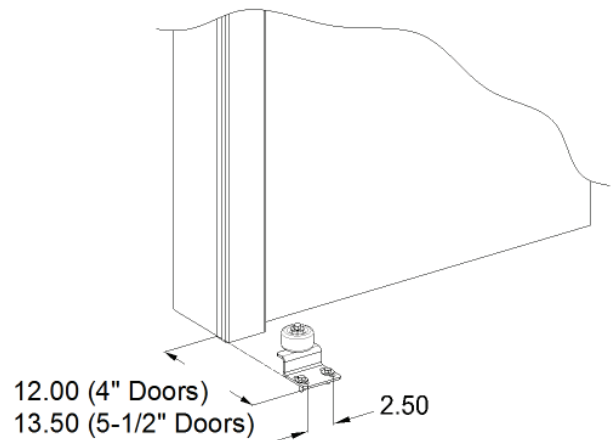

Figure 29: Trail Edge Floor Roller
- 5 Place the trail edge roller on the floor in front of the trail edge face frame (Figure 29).
- 7 Following the dimensions in figure 29, at the door's trailing edge, place the trail edge roller on the floor so that as door closes, roller has minimum contact with door panel. Drill holes in floor so that bolts will be in the center of the two slotted bolt guide holes. Attach using 3/8" anchor bolts.